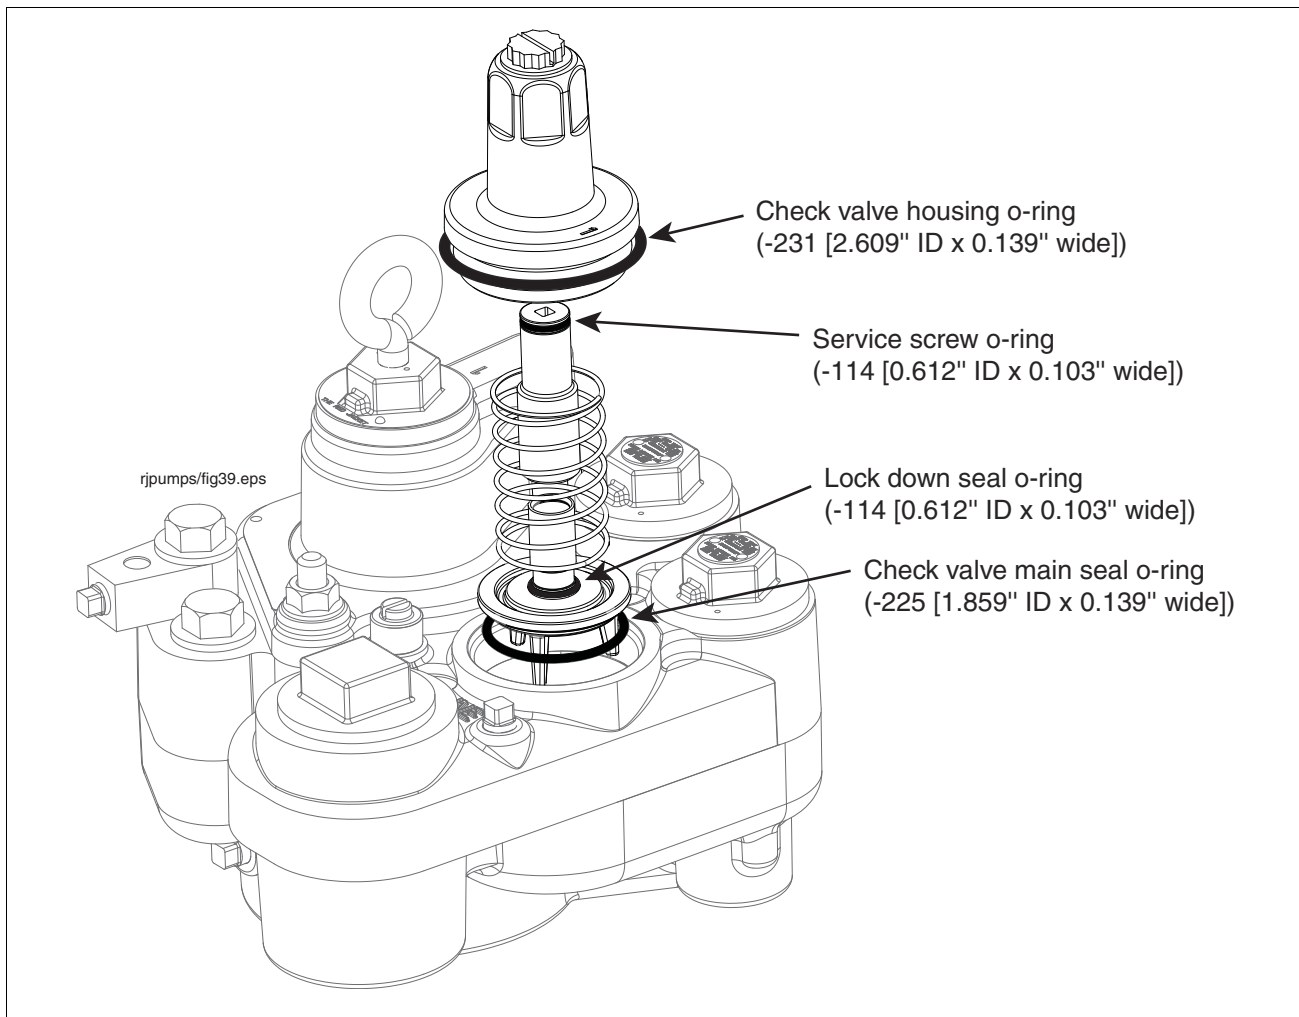

Figure 44. Inserting Check Valve Assembly Into Manifold
6. With its lubricated o-ring in place, insert the check valve onto its seat in the manifold, and place the new spring over the check valve (see Figure 44). Place the check valve housing with o-ring over the spring and check valve and screw it in hand tight. Torque the housing to 40 - 50 ft-lbs (54 - 67 N•m).
8. Open the air purge screw 2 - 3 turns counterclockwise (see Figure 44).